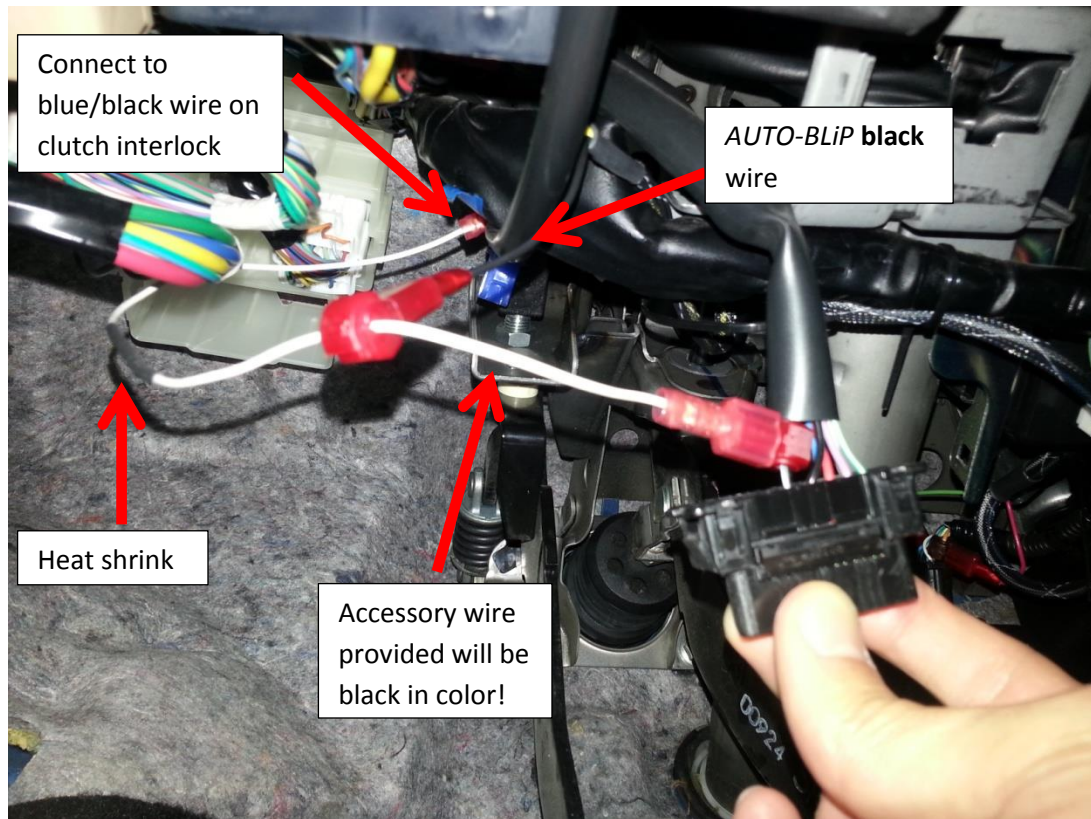

Figure 4 (OBDII Connector)
4. Connect the other end of the black accessory wire to the wiretap in **Step 3 (Figure 4 & 5)**.
5. Connect *AUTO-BLiP* **black** wire to the wiretap on the black accessory wire (**Figure 4 & 5**).